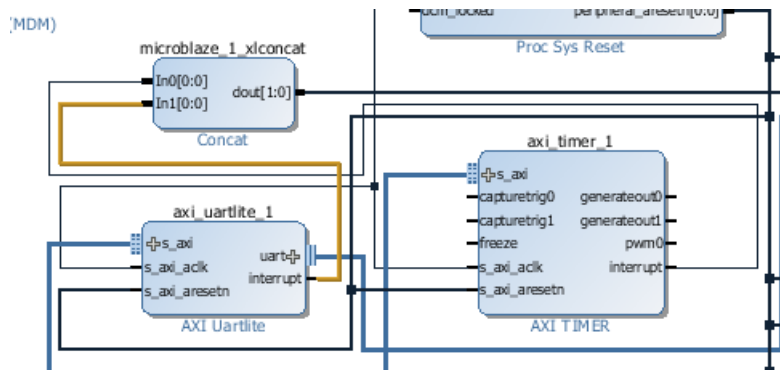

Figure 113: Connected Interrupt Ports
2. Connect the interrupt port of AXI Uartlite to the input port **In1[0:0]** of Concat. The connections should look like Figure 113.